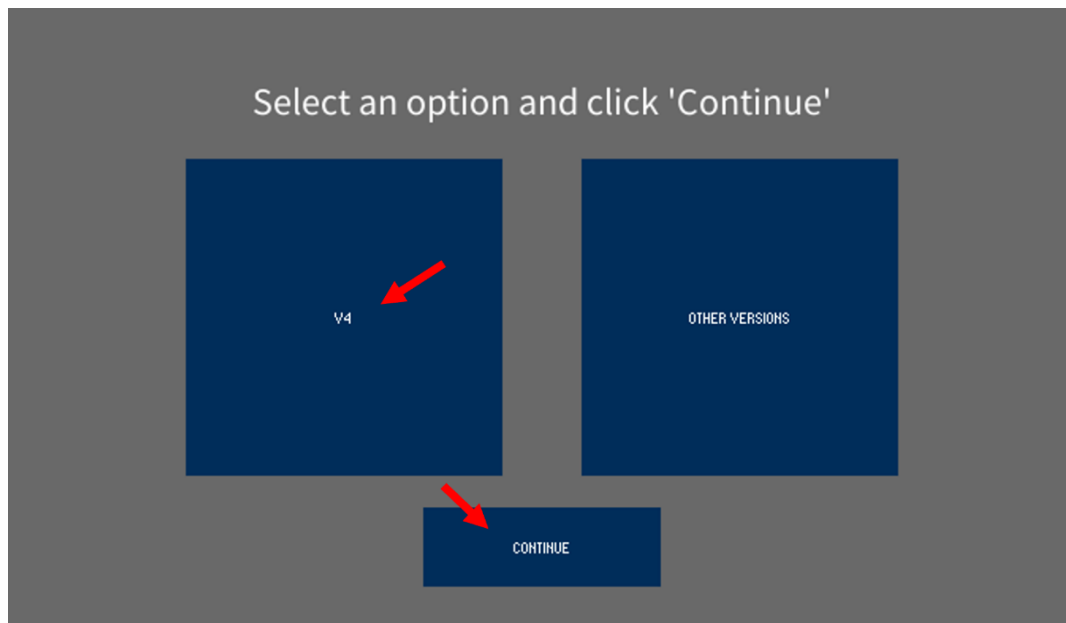

Figure 17. As the exe file opens, click “V4”, then click “CONTINUE”.
5. As the file opens, a menu will display two options. Click option *V4*, then click *CONTINUE*, as in figure 17.